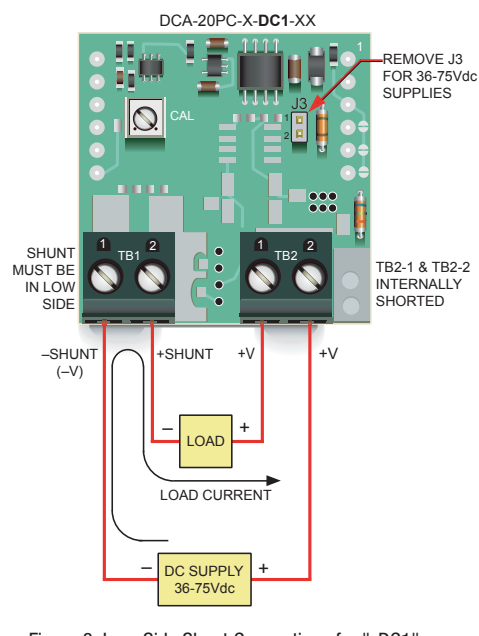

Figure 3. Low-Side Shunt Connections for "-DC1" Models Modified for 36-75Vdc Non-Isolated Power (See Technical Note 6)
6. **Operation With 36 to 75Vdc Power:** As shipped, all '-DC1' models' rated operating supply range is +5 to +40Vdc. However, '-DC1' models can be user configured for 36 to 75Vdc operation by removing (opening) jumper J3. Please note that this modification can only be performed on '-DC1' power models. Also, all '-DC1' models—including those that have been modified for 36-75Vdc operation—can only be connected in low-side, grounded-shunt applications. See Figure 3 for